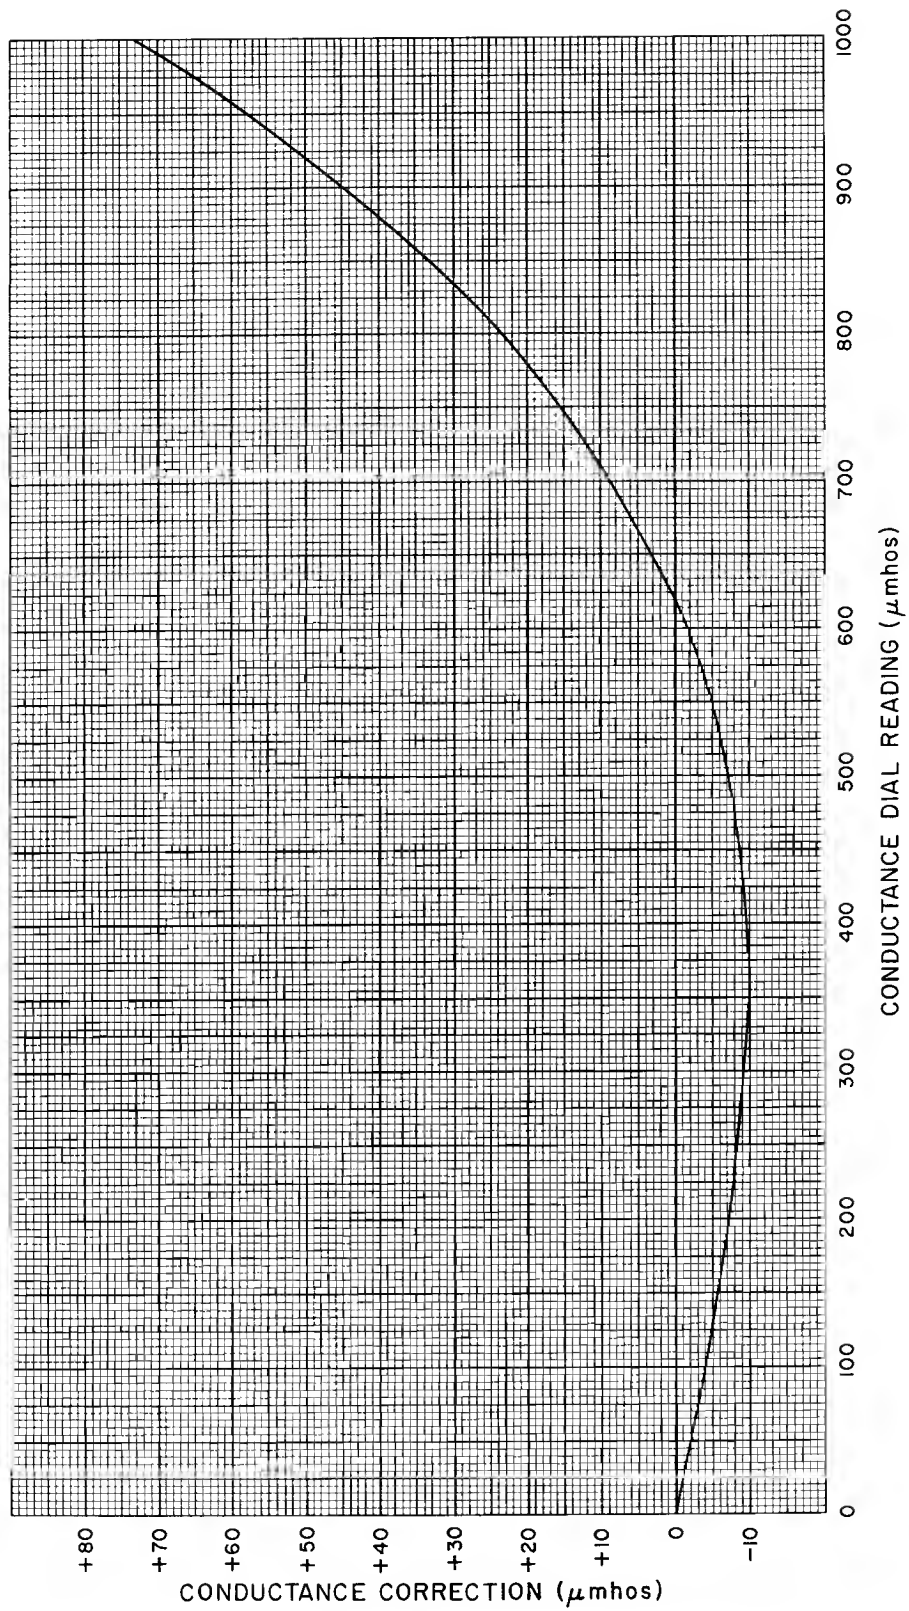

Figure 8. Conductance Correction for DIVIDE G/MULTIPLY R X1 Range
- j. Read the conductance of the test specimen on the G-scale of the CONDUCTANCE dial. If the MULTIPLY C switch is in the 1 position, correct the conductance reading in accordance with Figure 8. If the DIVIDE G/MULTIPLY R switch is in the 1 position, correct the conductance reading in accordance with Figure 9.